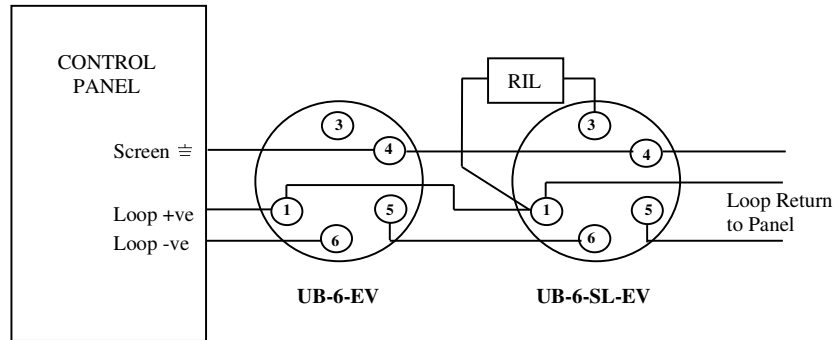

Figure 1
2. Fix the Base to Ceiling and Make the Loop connections as shown in figure 1 or 2, for Detectors with or without SCI.